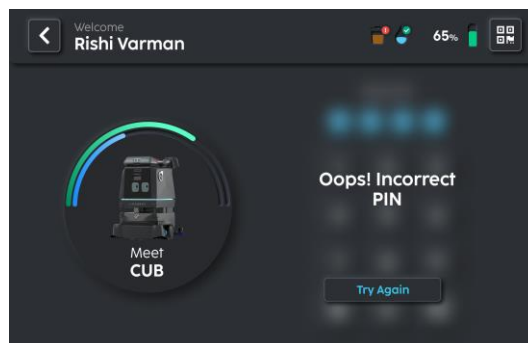

FIGURE 3-17
3. If pin is incorrect, try again (Fig. 3-17).